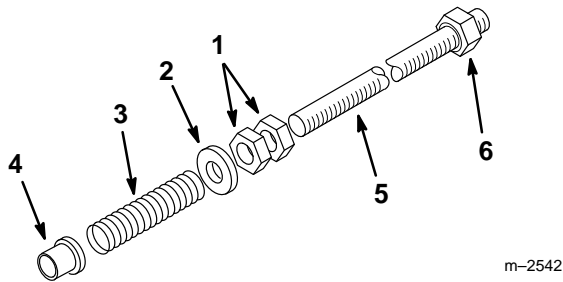

Figure 5
3. Thread two (2) 1/2" jam nuts approximately 9" (22.8 cm) up on each adjusting shaft (Fig. 5).
4. Slide a 1/2" washer, spring and bushing onto each adjusting shaft. Make sure to install the bushing with the flange end against the spring (Fig. 5).